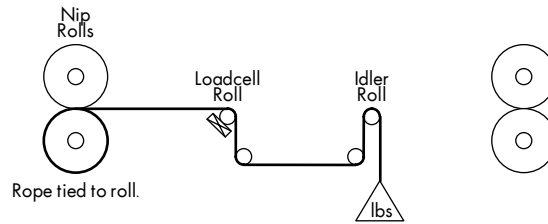

Figure 4 - Sample Rope Path
- C. With no material over the tension roll, thread a rope along the center of the exact material path over the tension roll. Figure 4 shows a sample path. The path of the rope over the tension roll must be exactly the same as that of the material.